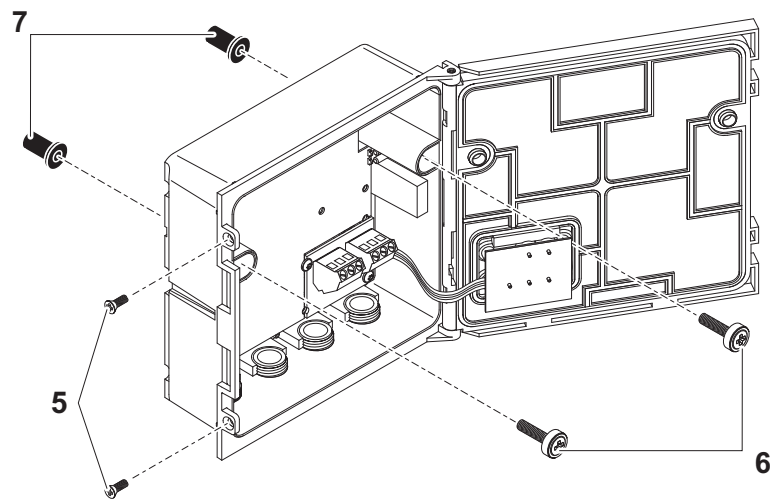

Fig. 3-21 Mounting the sun shield: Premounting the ISO blind nuts
| 2 | Remove the two countersunk screws (pos. 5 in Fig. 3-21) and swing open the module lid. |
| 3 | Insert the cheese-head screws (pos. 6 in Fig. 3-21) with the plastic washers in the drilled mounting holes and loosely screw in the ISO blind nuts (pos. 7). |
4	Position the MIQ module on the sun shield and fix it into place with the two screws (pos. 6 in Fig. 3-21).
5	Close the module lid and fix it with the two countersunk screws (pos. 5 in Fig. 3-21).